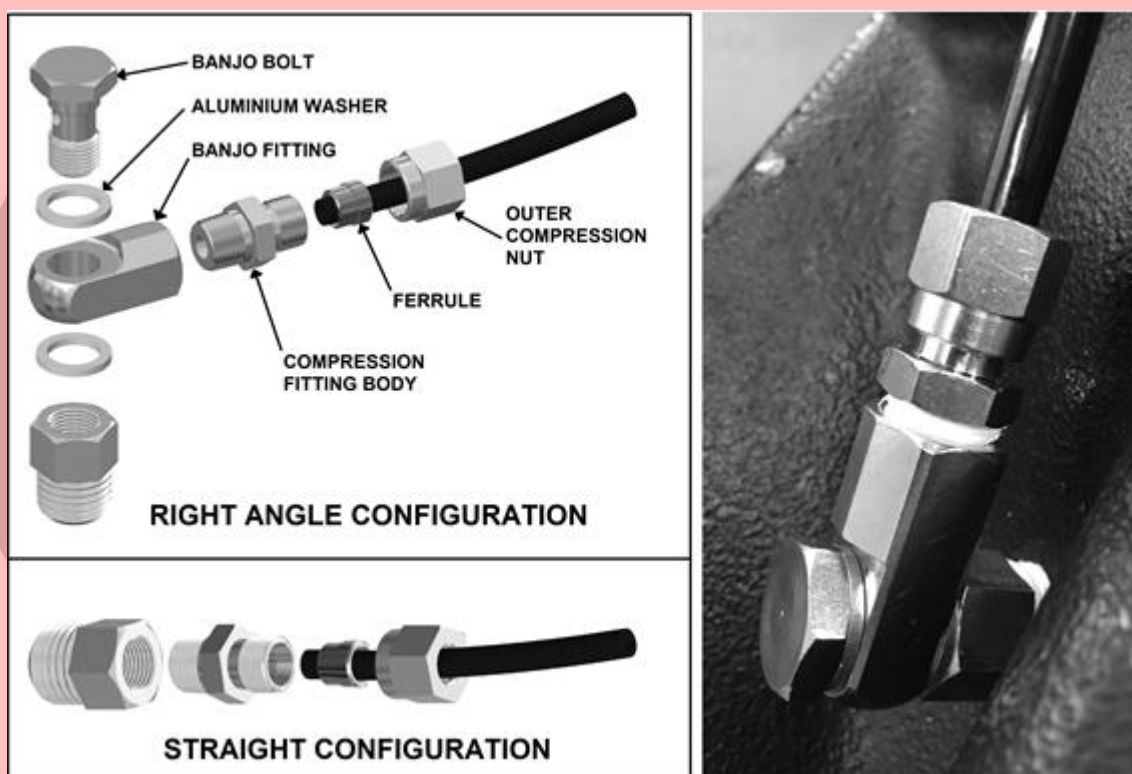

Figure 13. Air Locker bulkhead fitting assembly (170114)
- ☐ Insert the outer compression nut and ferrule over the air line. Ferrule should be oriented as per Figure 13.
- NOTE:** When right angle routing of the tube is not required, screw the compression fitting body straight into the bulkhead fitting body (Figure 13).
- ☐ Consulting the wiring diagram (Fig. 13.) for wire colours, and the switch terminal illustration (Fig. 14.), plug each of the female spade terminals onto their appropriate switch terminal.